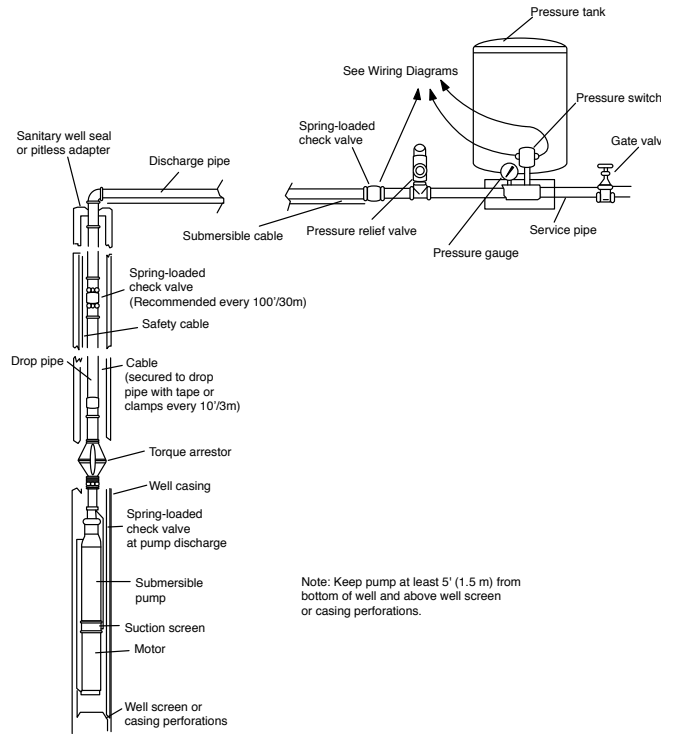

FIGURE 1
2. Install pump and components appropriate for the test as shown in Fig. 1.
2. A torque arrestor just above pump to prevent chafing the cable when pump and pipe twist during the starting and stopping cycle. (See Figure 1.)
Figure 1 illustrates a typical well installation showing in ground components. Adhere to the following items when installing the pump and drop pipe:
Figure 1 illustrates a typical well installation showing above-ground components. Refer to Figure 1 and the following steps when installing the discharge plumbing.